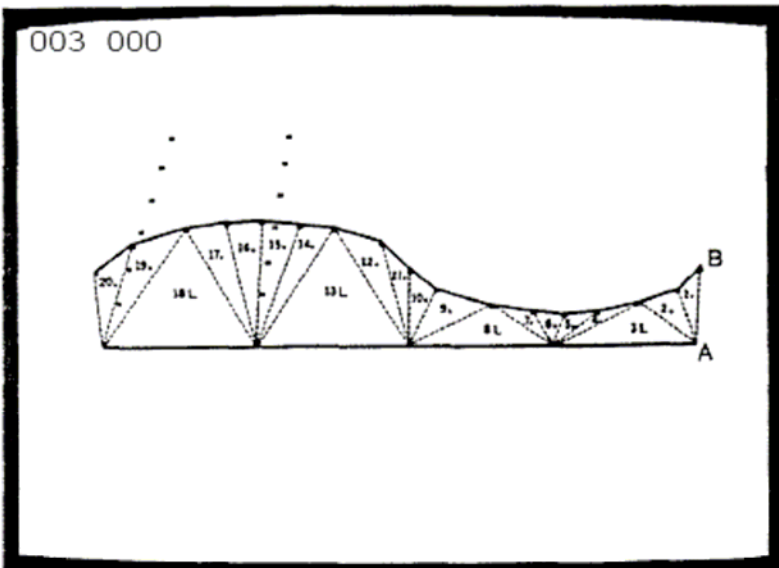

fig. 18 (SPACE SCREEN) |
Go to the MAIN MENU and select CONSTRUCT 3-D PANEL. Load "18" in Z OF THIS LINE; then go to the graph. Use the joystick to construct the bottom wall of the "L" in such a way that the HIGH LINE is "S" shaped (see fig. 18).
Refer to fig. 18 and follow the steps below:
2. Use the "." (Plot) or "L" (LOW LINE) key to construct each triangle of the panel. Use the Joystick to position the cursor each time prior to constructing a triangle with the "." (Plot) key. Fig. 18 shows a SPACE SCREEN display of one possible construction.